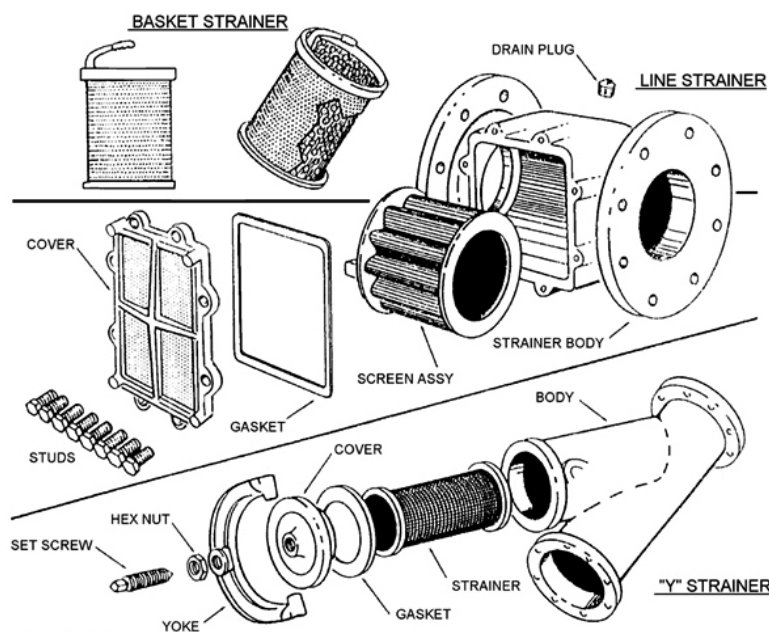

Figure 2-17. Strainers.
Generally, just three types of strainers are used: (1) the Y type, which is shaped like a Y and is used as a line strainer, (2) the cylindrical type, which is shaped like a cylinder and is also used as a line strainer in the pipeline, and (3) the basket type, which is similar in appearance to the cylindrical type, with one end closed and used as a line and/or fill line strainer (fig. 2-17).
As you come into contact with newer or older systems, you will find strainers that differ in appearance from the three shown. All, however, are readily recognizable and easily opened for maintenance. In studying figure 2-17, note that each strainer consists of a rugged basic frame (generally brass, stainless, or bronze), a heavy and rather coarse wire mesh, and the fine screen. Where flow is heavy and pressures are high, a heavy shell provides additional reinforcement. Normally, the direction of fuel flow through a strainer is from the center to the outside of the strainer.